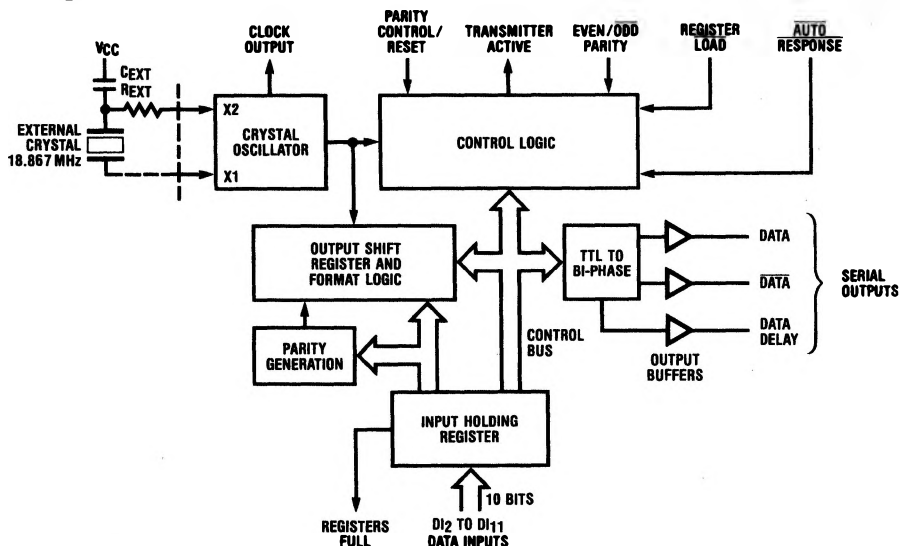

FIGURE 2. DP8340/NS32440 Serial Bi-Phase Transmitter/Encoder Block Diagram
Figure 2 is a block diagram of the DP8340/NS32440 bi-phase Transmitter/Encoder. The transmitter/encoder contains a crystal oscillator whose input is a crystal with a frequency eight (8) times the data rate. A Clock Output is provided to drive the DP8341 receiver/decoder Clock Input and other system components at the oscillator frequency. Additionally, the oscillator drives the control logic and output shift register/format logic blocks.